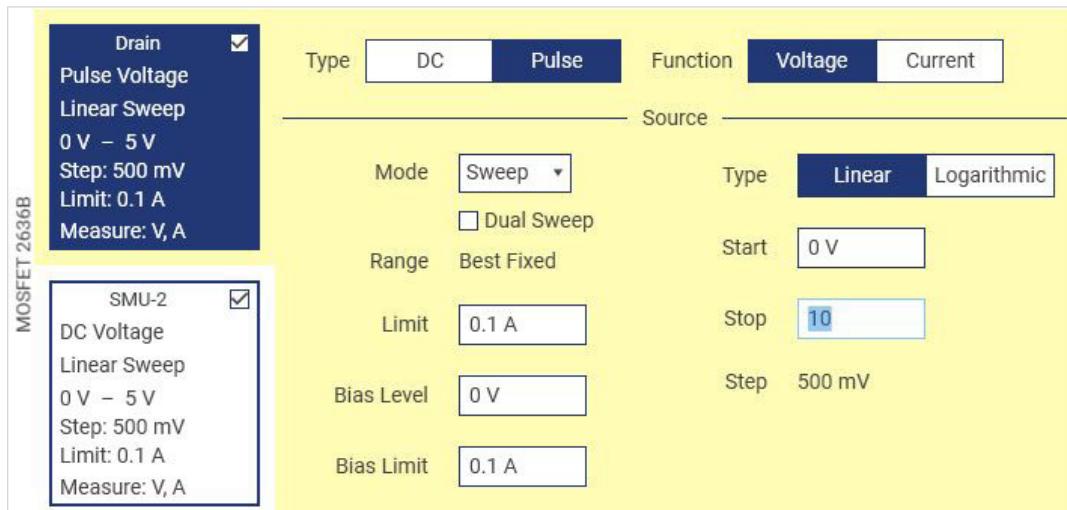

Figure 11: Apply drain source type and output settings.
5. Apply the following drain source changes (illustrated in **Figure 11**):